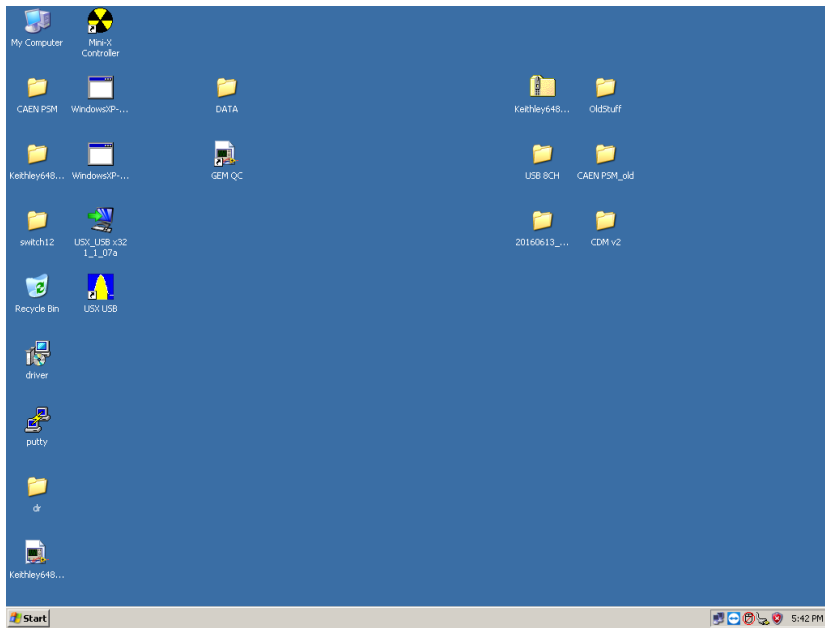

Figure 22: The Desktop of the X-Ray computer.
2. Open the HV control (see procedure item 9 of Chapter 3).
3. On the X-Ray laptop open the Mini-X Software (located in the top left corner; see figs. 22 and 23).